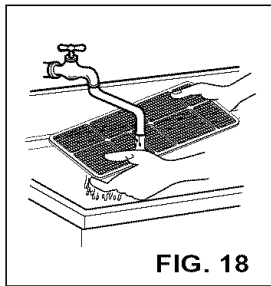

FIG. 18
- Wash the Air Filter under the faucet with warm water. Be sure to shake off all the water before replacing the filter. (FIG.18)